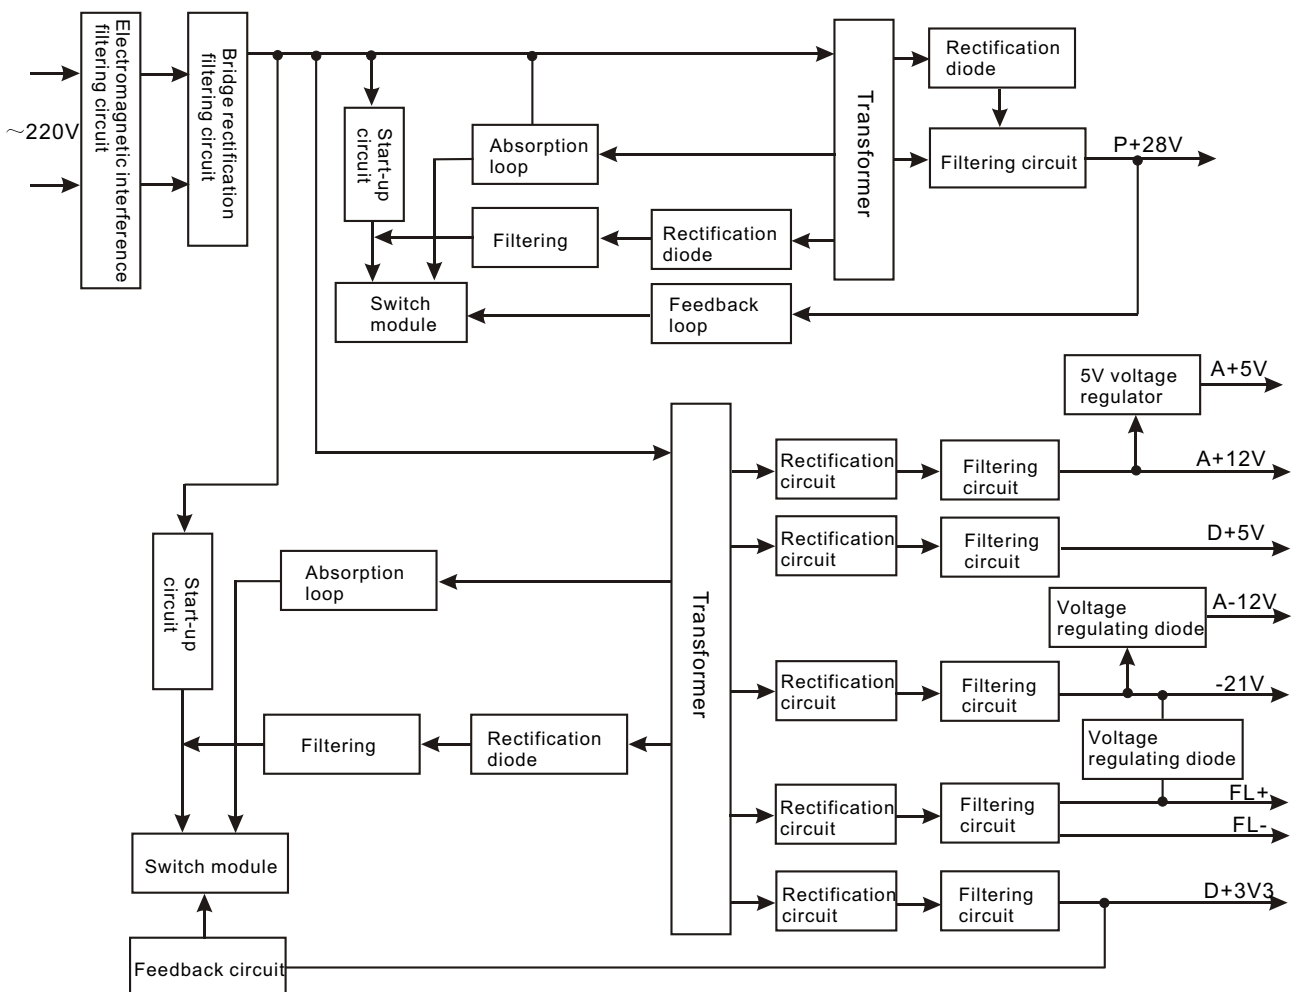

Figure 3.2.6.1 Power circuit block diagram
1. Power circuit block diagram is shown in the following figure 3.2.6.1: